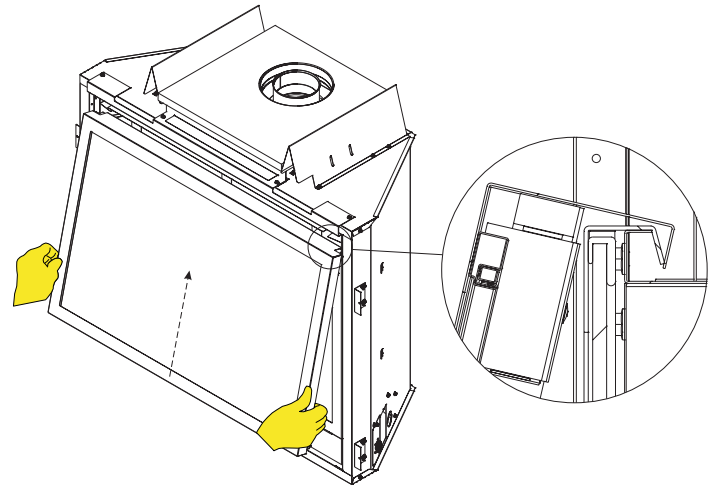

Figure 97
3. Angle barrier screen frame so the barrier screen bracket rests over the glass frame. See Figure 97.